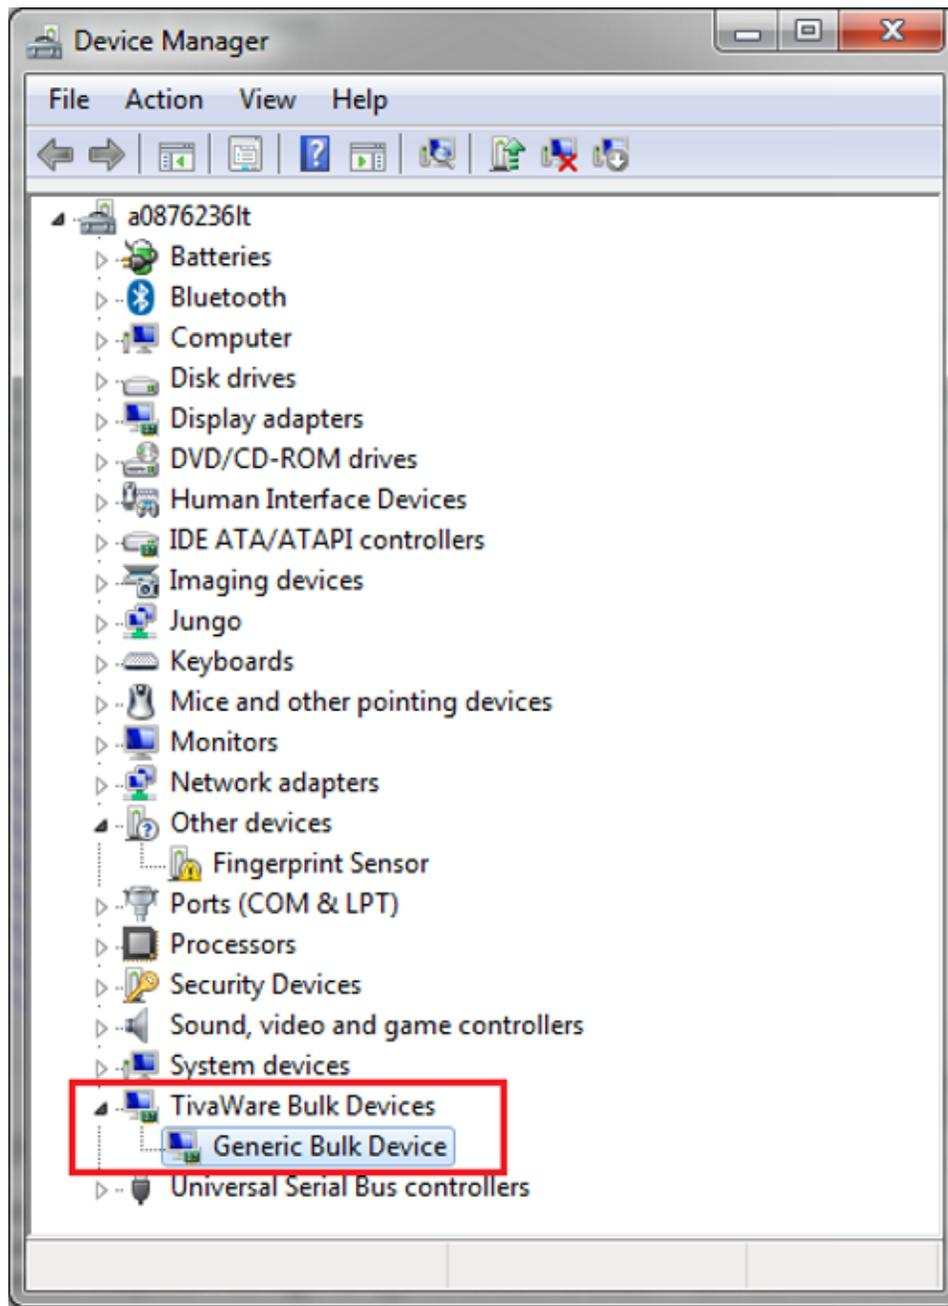

Figure 20. Windows View of the Device
8. Open Windows device manager. The board should get enumerated as a *TivaWare Bulk Device* in Windows device manager (see Figure 20).